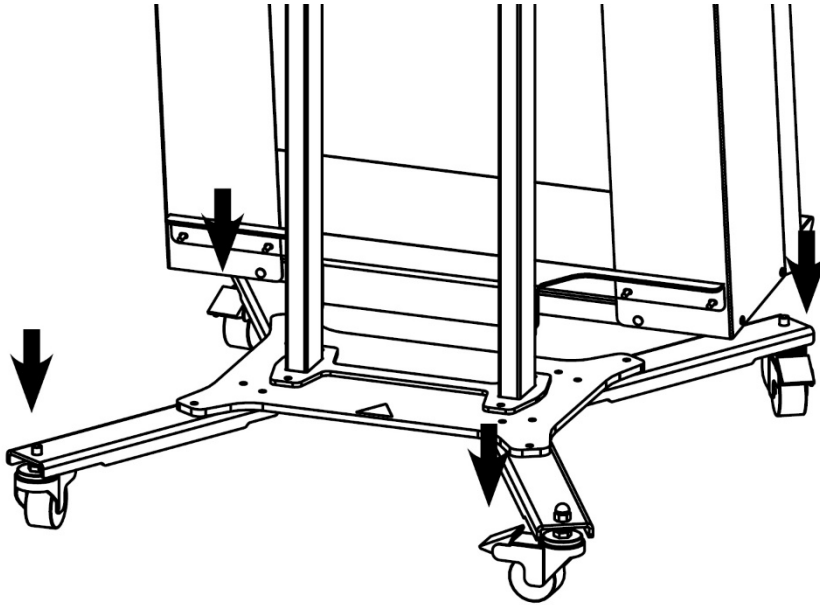

Figure 12 Swivel Castors
11. Position and lock the **Dispenser** head angle adjuster downwards by using the adjustment handle (refer to Figure 12).
5. Push the **Reset Button** (refer to Figure 12).
6. Select the preferred **Dispenser Mode** by switching the **Mode Selector Switch** to the **[I]** or **[II]** position (refer to Figure 12).